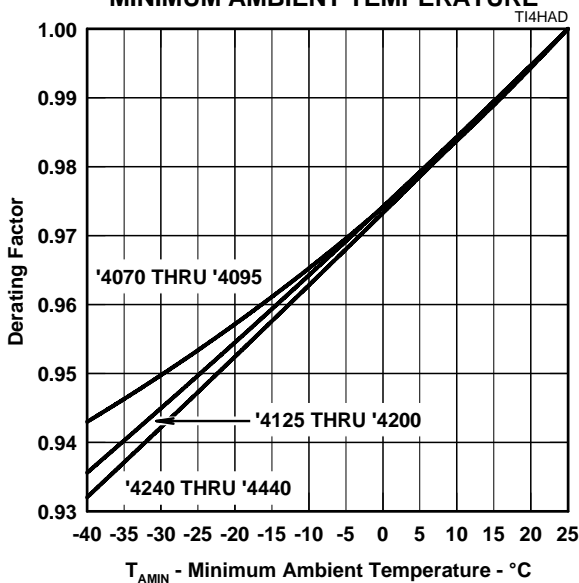
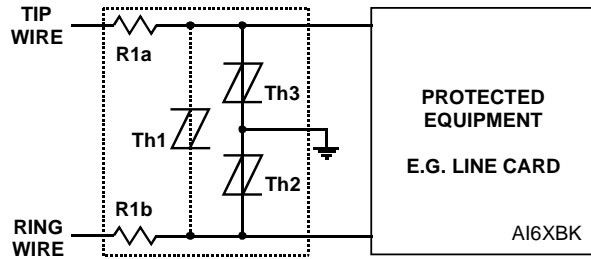
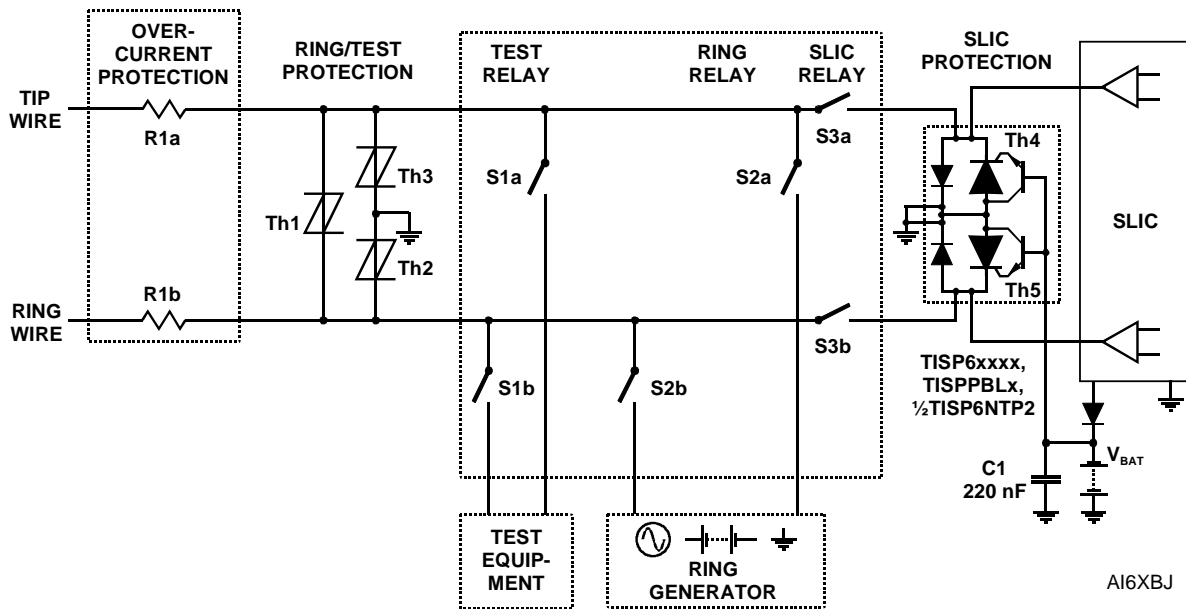

Figure 10.
Figure 15. PROTECTION MODULE
Figure 17. LINE CARD RING/TEST PROTECTION
- NOTES: 1. See Applications Information and Figure 10 for voltage values at lower temperatures.
The protector characteristic off-state capacitance values are given for d.c. bias voltage, V_D , values of 0, -1 V, -2 V and -50 V. Where possible values are also given for -100 V. Values for other voltages may be calculated by multiplying the $V_D = 0$ capacitance value by the factor given in Figure 6. Up to 10 MHz the capacitance is essentially independent of frequency. Above 10 MHz the effective capacitance is strongly dependent on connection inductance. In many applications, such as Figure 15 and Figure 17, the typical conductor bias voltages will be about -2 V and -50 V. Figure 7 shows the differential (line unbalance) capacitance caused by biasing one protector at -2 V and the other at -50 V.
Figure 10 allows the calculation of the protector V_{DRM} value at temperatures below 25 °C. The calculated value should not be less than the maximum normal system voltages. The TISP4265H3BJ, with a V_{DRM} of 200 V, can be used for the protection of ring generators producing 100 V rms of ring on a battery voltage of -58 V (Th2 and Th3 in Figure 17). The peak ring voltage will be $58 + 1.414 \times 100 = 199.4$ V. However, this is the open circuit voltage and the connection of the line and its equipment will reduce the peak voltage. In the extreme case of an unconnected line, clipping the peak voltage to 190 V should not activate the ring trip. This level of clipping would occur at the temperature when the V_{DRM} has reduced to $190/200 = 0.95$ of its 25 °C value. Figure 10 shows that this condition will occur at an ambient temperature of -22 °C. In this example, the TISP4265H3BJ will allow normal equipment operation provided that the minimum expected ambient temperature does not fall below -22 °C.